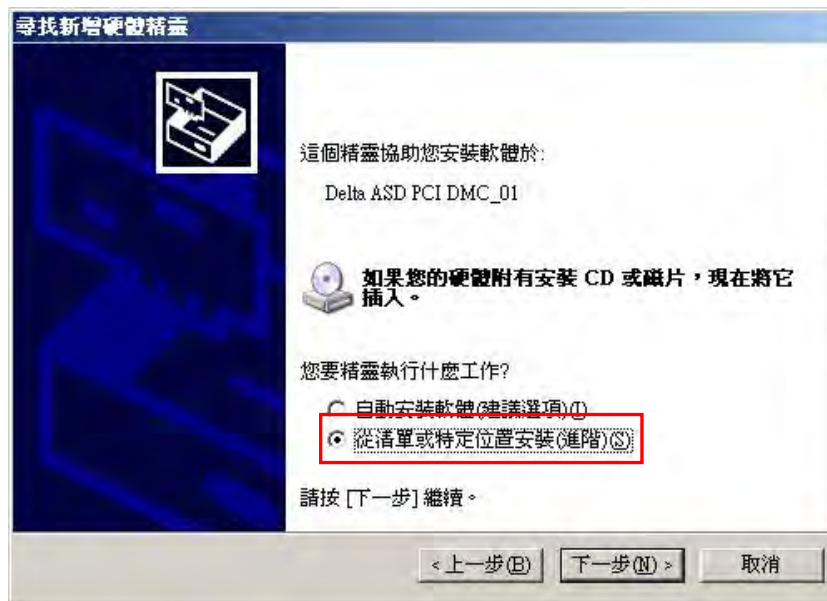

Figure 2.26
As shown in Figure 2.26, the wizard will indicate that it will now install the driver for "Delta ASD PCI DMC\_01". Please select "Install from a list or specific location (Advanced) (S)" then click on "Next" to continue.